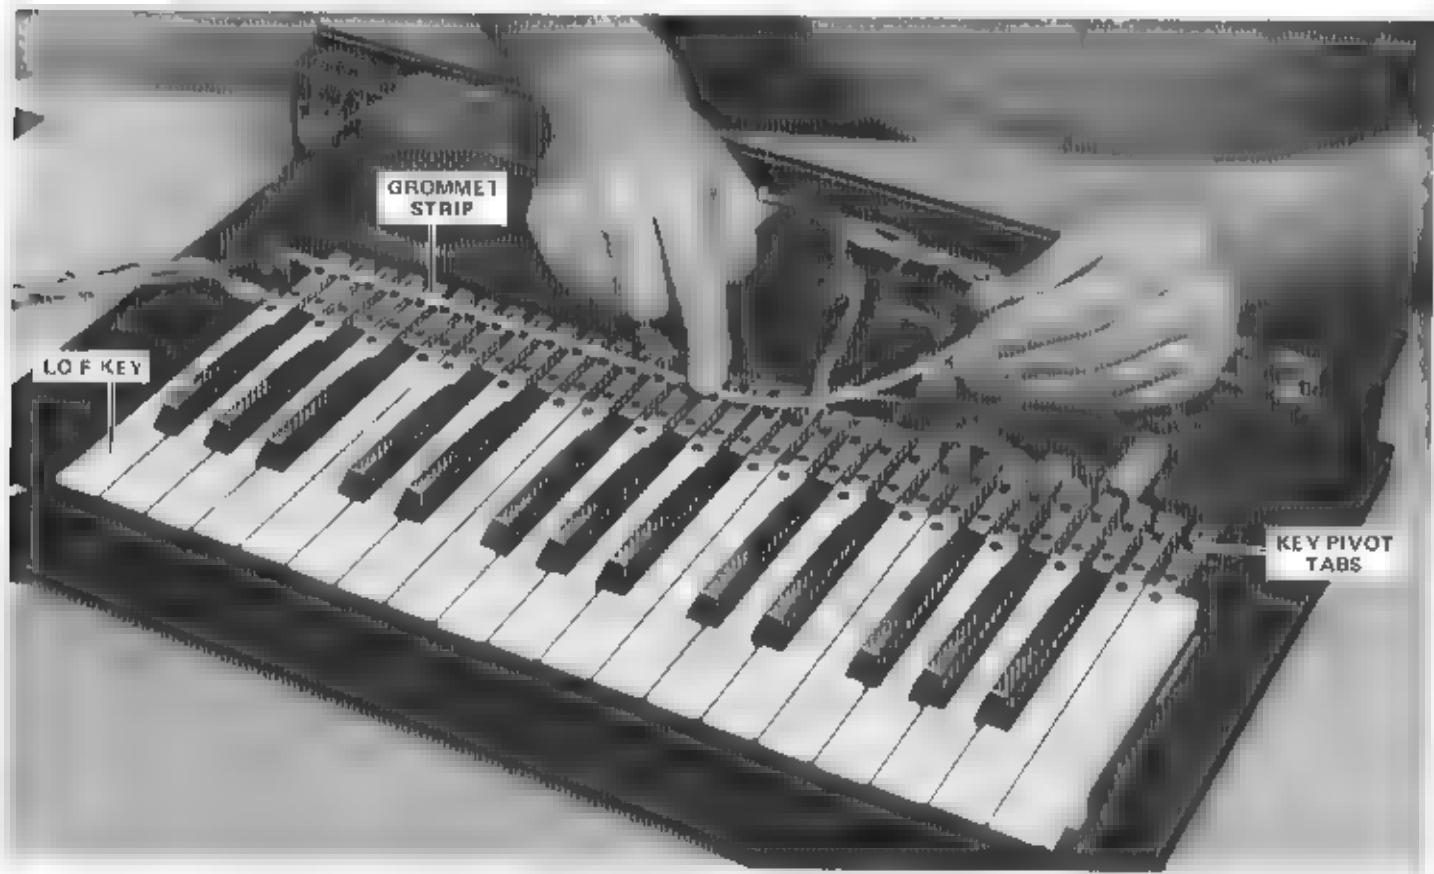

FIGURE 3-5 INSTALLATION OF GROMMET STRIP
g) Several service functions can be performed on the keyboard without removing it from the base. Early units (prior to approximately Serial No. 2500) were built without insulation on the key pivot tabs which caused the keyboard to short out against the main PC board. All such units should have a grommet (916-041696-001, 17-3.4 inch) installed. Press the strip on over the tabs as shown in Figure 3-5.